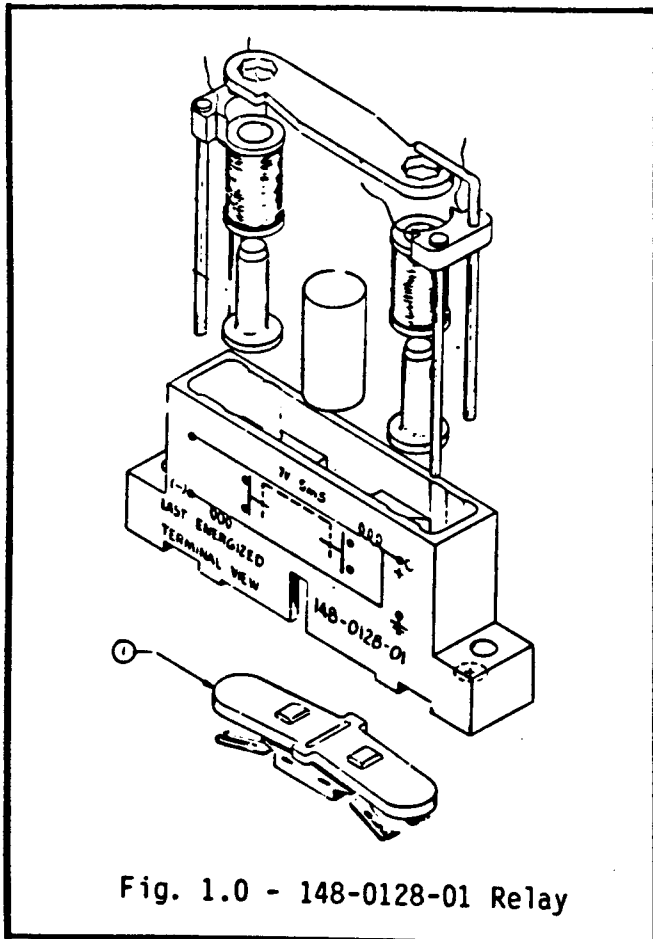

Fig. 1.0 - 148-0128-01 Relay
2. Remove armature (Item #1 in Fig. 1.0) from the relay housing, noting the exact orientation with respect to the relay housing. The armature must be reinstalled in the same orientation as it was prior to removal.